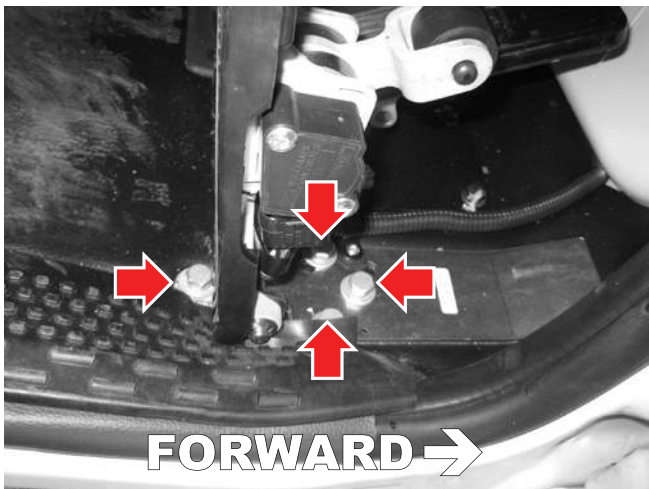

Figure 4-1
1. Remove the 4 bolts used to mount the throttle pedal to the floorboard of the cab, and discard. Set aside the throttle pedal for reinstallation (see Figure 4-1).